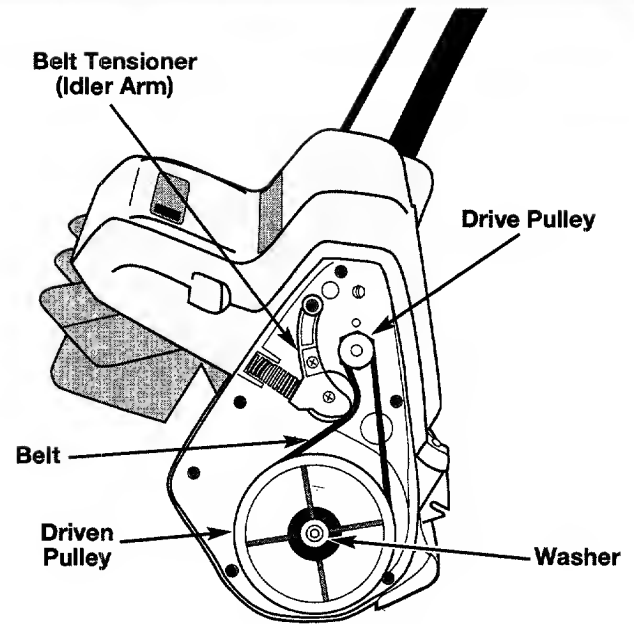

Fig. 8
3. Pull the belt tensioner (idler arm) away from the drive pulley. Remove the damaged or broken belt from the driven pulley and drive pulley inside of the housing (Fig. 8).
4. Loop the new belt around the drive pulley and driven pulley (Fig. 8). Pull the belt tensioner (idler arm) away from the drive pulley to install the belt around the drive pulley.
NOTE: Make sure the washer is still in place on the driven pulley shaft prior to reinstalling the belt case cover (Fig. 8).